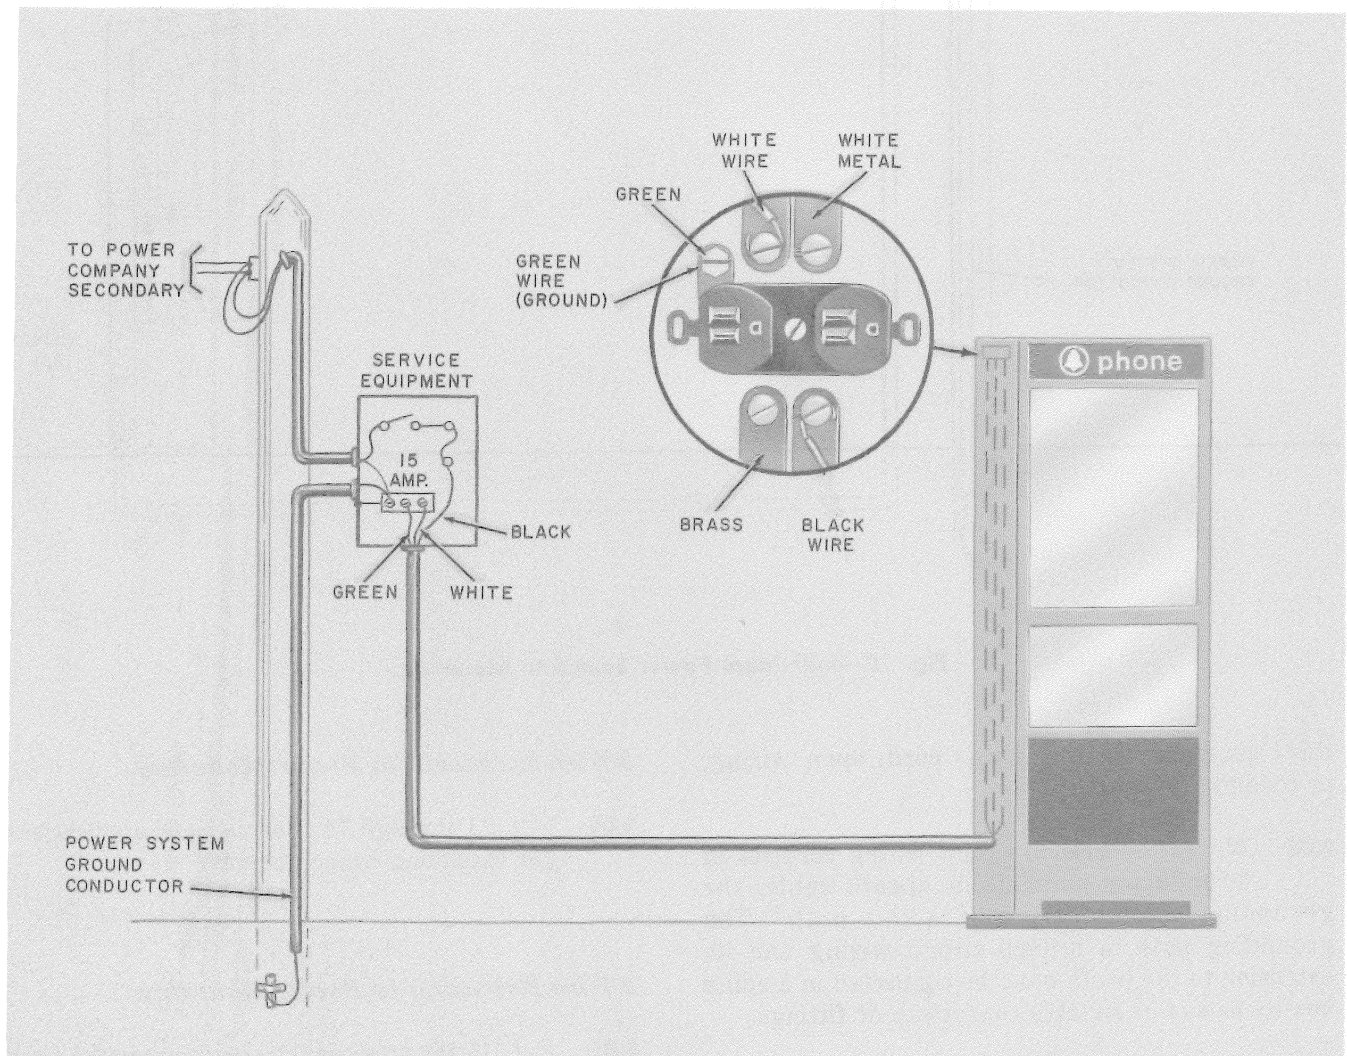

Fig. 9—Individual Power Source to Booth
7.01 Refer to Fig. 9 and 10 for this type service. Similar installations may have the fuse and cutout switch mounted on an adjoining post or wall, on the booth/mounting, or on a service mast.